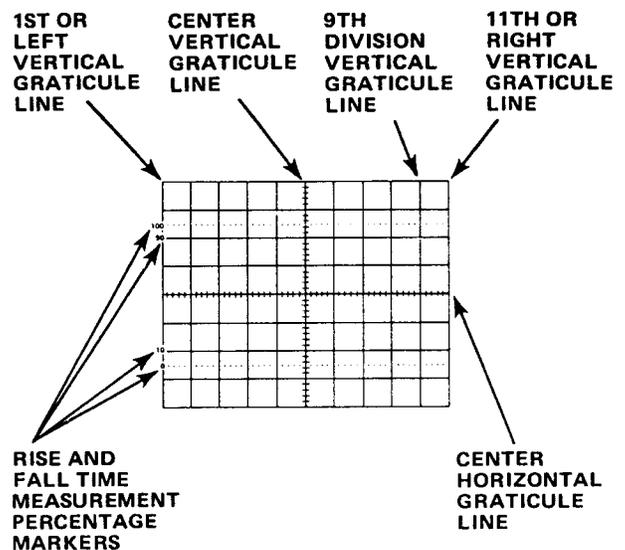

Figure 4-17 Graticule measurement markings
(1) To maintain the high frequency characteristics of an applied signal, high quality, low loss coaxial cable should be used. Also, the cable should be terminated at both ends in its characteristic impedance. If it is necessary to use cables with differing characteristic impedances, use suitable impedance matching devices.
(2) To maintain fast rise time pulse characteristics, use the shortest length of coaxial cable possible. Also, observe the cable criteria for high frequency characteristics in (1) above.
e. Graticule. The graticule is internally marked on the faceplate of the crt to provide accurate, no parallax measurements. The graticule is marked with eight vertical and ten horizontal major divisions. Each division is one centimeter square. In addition, each major division is divided into five minor divisions. The vertical gain and horizontal timing are calibrated to the graticule, so accurate measurements can be made from the crt. Figure 4-17 shows the graticule with its various measurement markings. The terminology shown is used throughout this manual in discussions involving graticule measurements. Note the numeric scaling markings on the left side of the graticule. These are used when making rise or fall time measurements.